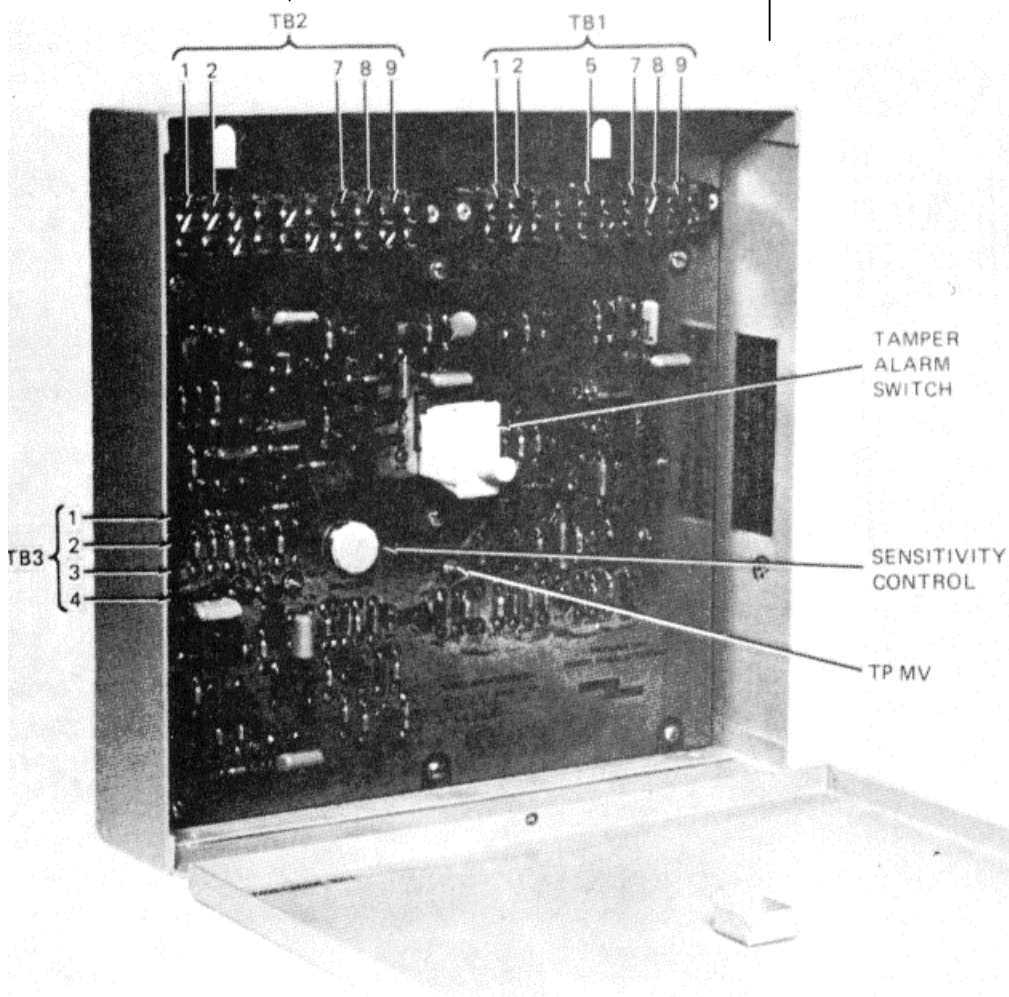

Figure 5-1. Processor, Ultrasonic Motion Sensor with Troubleshooting Test Points
- (6) Inspect all metal surfaces intended to be painted for condition of finish and legibility of panel lettering.
- f. Refer to figures 5-1 and 5-2 for all test points referred to in table 5-1. Step-by-step troubleshooting procedures, including Trouble, Probable Cause, and Corrective Action, are listed in table 5-1.